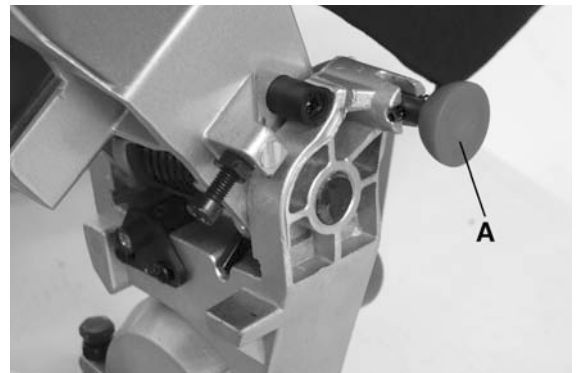

FIGURE 8
4. The saw has been shipped with the saw head locked in the down position. To release the saw head, push down on the top of the saw arm, pull then turn the the saw head release knob (A, fig.8).
When transporting the miter saw, the cutting arm should always be locked in the down position. First fully lower the cutting arm, then pull and turn simultaneously the head lock mechanism (A) Fig.8 until the cotter pin is lined up with the gap and release. It may be necessary to raise the cutting arm until the head lock shaft locks the head into place.
2. Push down on the saw arm and pull and turn on the release knob (A) Fig.8 to disengage the saw arm.